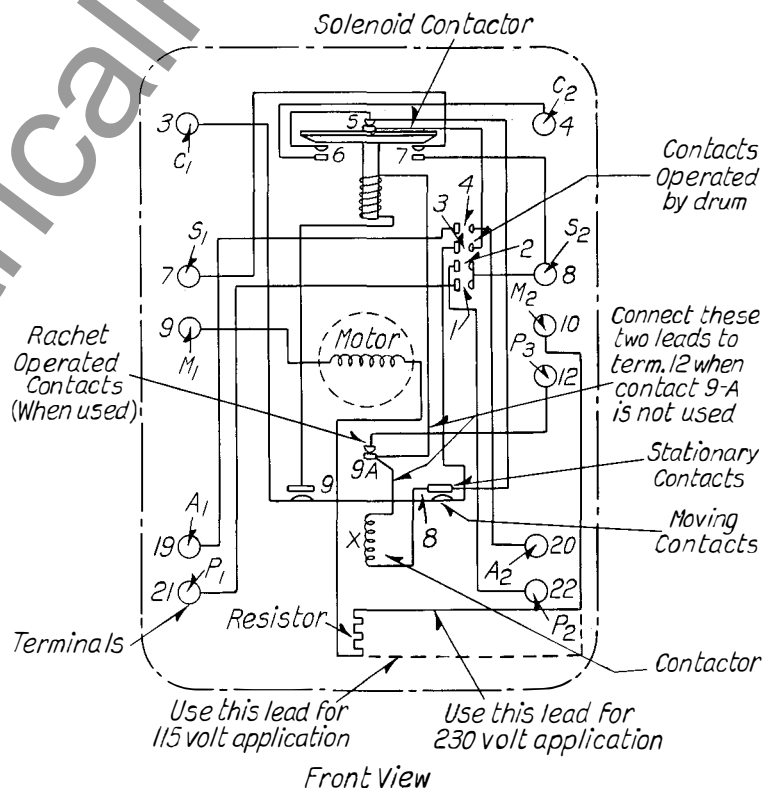

FIG. 5—TYPICAL INTERNAL DIAGRAM
The type RC recloser is mounted on a metal base with a molded glass cover. The base has terminals in the rear for external connections. The recloser is suitable for mounting on any of the usual panel materials—steel, slate or ebony asbestos. Various combinations of voltage coils and assembly of elements can be obtained for either projection surface or semi-flush panel mounting. All electrical contacts are silver to silver and of ample carrying capacity for the service required of them. All new Standard RC reclosers have (11) eleven rear connected terminals. The internal wiring arrangement for models without Z element is shown in Fig. 5. For models using the Z element its coil is connected